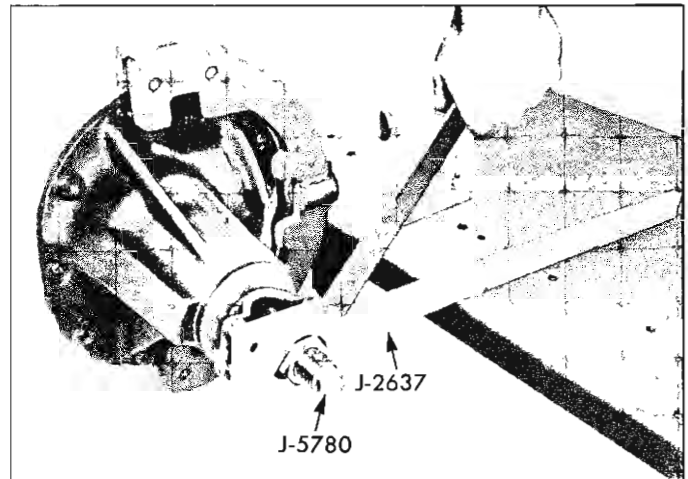

Fig. 28—Installing Companion Flange
6. Install pinion flange and deflector assembly using Tools J-5780 and J-2637 (fig. 28). Install special washer and new special self-locking nut.